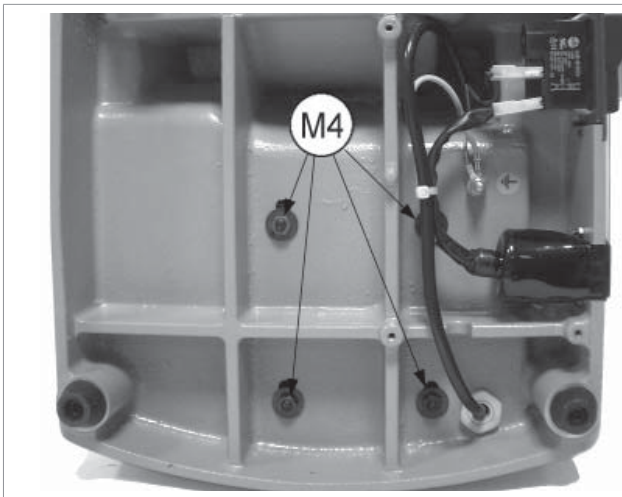

Fig. 53
- 4) Loosen and remove the 4 motor fixing nuts (Fig. 53).